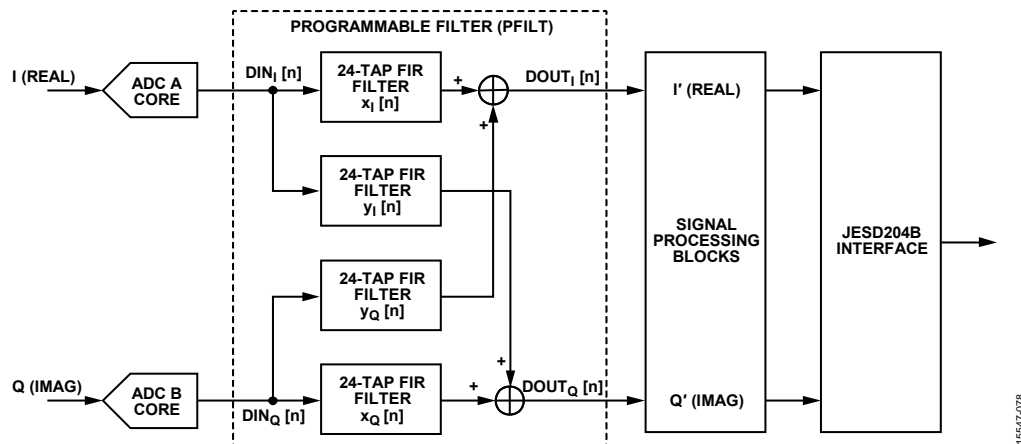

Figure 83. 24-Tap Full Complex Filter Configuration.
- Full complex filter using four real 24-tap filters for the I/Q channels (see Figure 83)